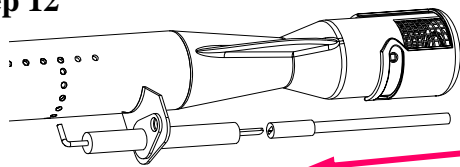

Fig. 12A
Procedure: Attached to each Burner Tube is an Ignition Electrode with a pin at the end of the Electrode. You need to attach each of the (3) ignition wires that you had pushed through the openings onto the pin end of the Electrode per Fig. 12A.